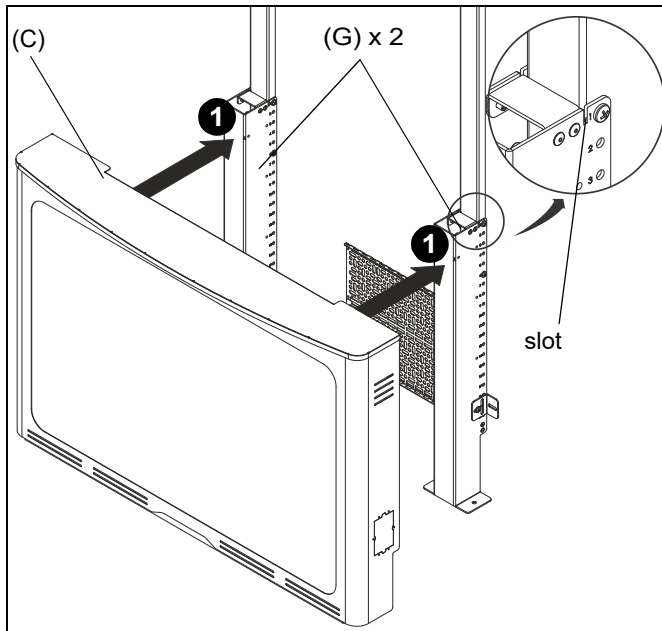

Figure 19
1. Place base cover (C) onto bottom uprights (G) and slide into slots on top of uprights. (See Figure 19)